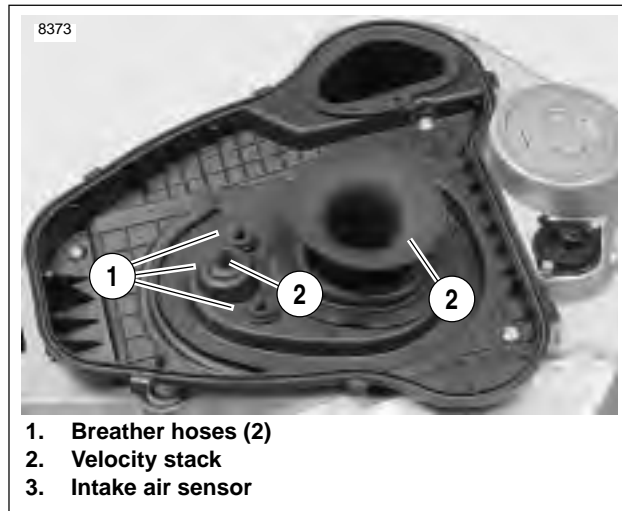

Figure 1-48. Airbox Baseplate
3. See Figure 1-48. Make sure two crankcase breather hoses (1) and intake air sensor (3) are captured in baseplate behind velocity stack (2).